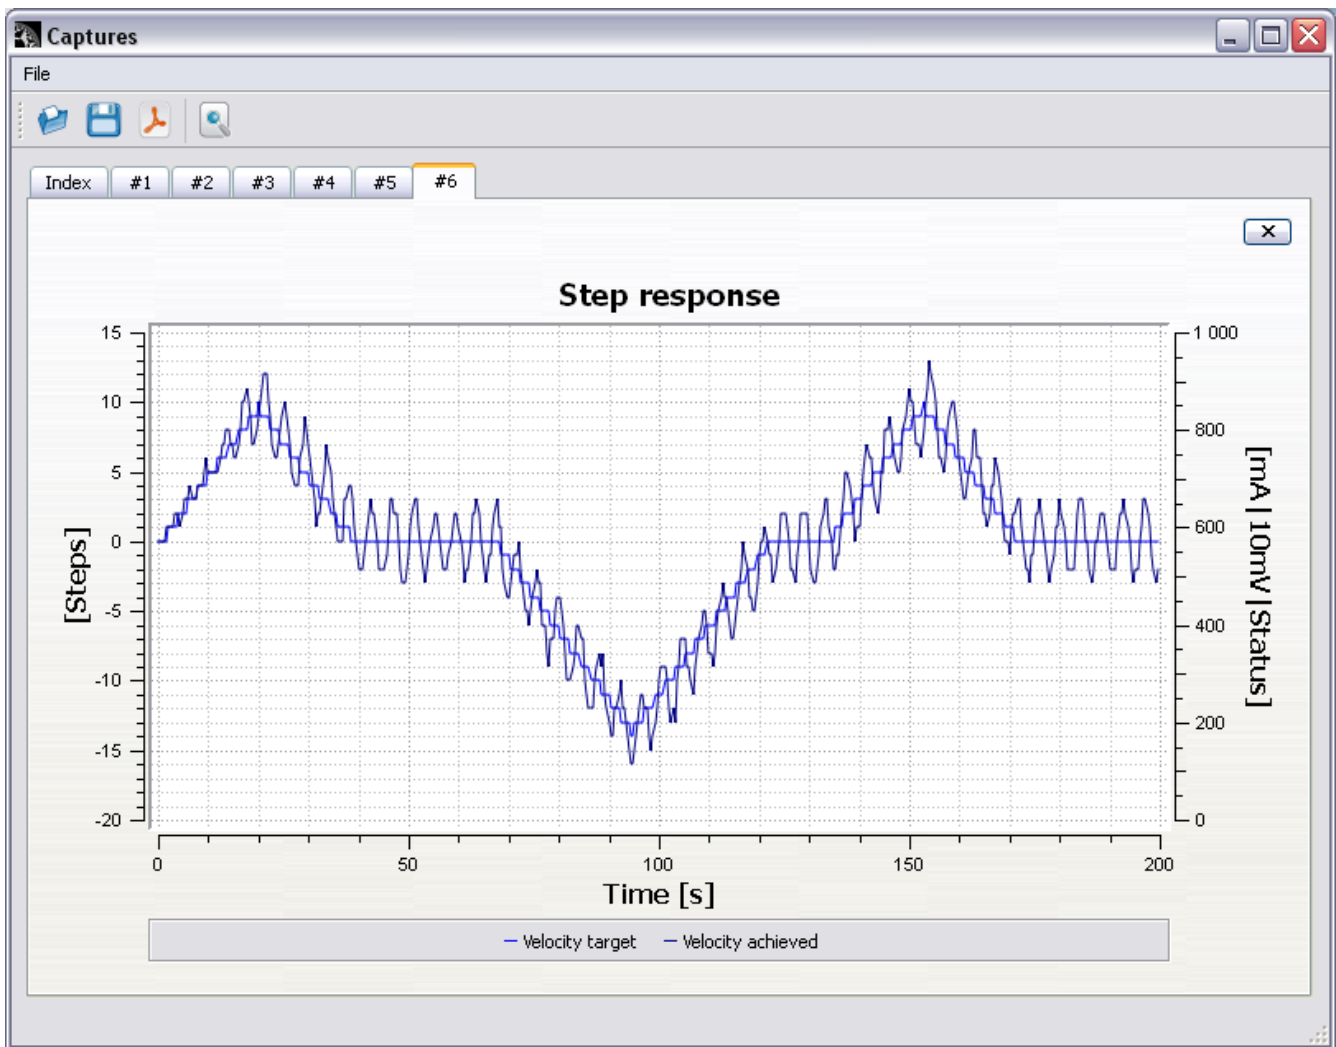

Figure 6: Too high velocity P-gain value
- If you are getting result that resembles Figure 6, (oscillation or too much noise from motor) decrease **Velocity P** gain value. Return to step 4.